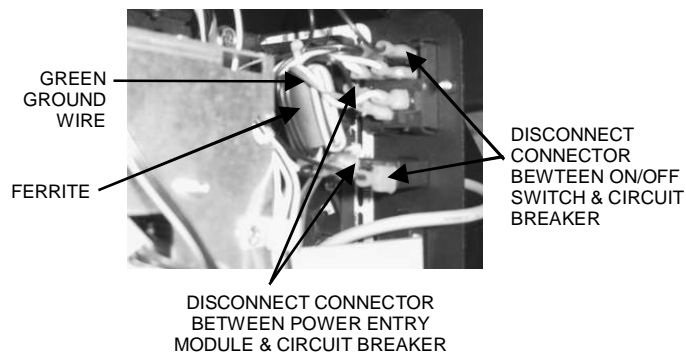

FIGURE 19 - AC POWER CONNECTORS IN VIBE GAME
7. Disconnect the AC power connector running from the top prong behind the circuit breaker to the top prong behind the on/off switch, and set it aside. **Note: This connector might be fed through a ferrite; in order to free it, you will need to remove the nut securing the green ground wire to the ground screw, then feed the ground wire through the ferrite to make room for the AC power connector. You will also need to cut any tie wraps securing the connector harnesses together.** Replace with the other provided AC power connector. See Figure 19. If you removed the ground wire, wind it back through the ferrite and secure to the ground screw with the same nut. Tie-wrap connector harnesses as necessary.